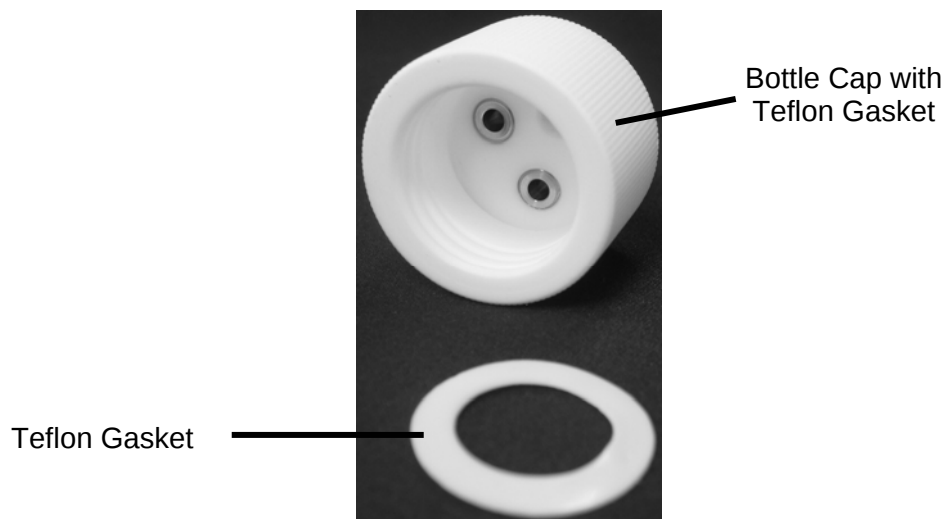

Figure E-12: Bottle Cap and Gasket
- e) Place the Waste bottle in secondary containment in a secure location below the detector (Figure E-11). Make sure that the cap is tightened to prevent any gas leaks. The waste bottle cap (Part Number 70-6915A) is a Teflon cap and includes a Teflon gasket (Part Number 70-6895) inside to ensure a proper seal (Figure E-12). The waste bottle is a closed system under a slight pressure and has a pressure relief valve on the cap in the event that the bottle becomes over-pressurized (e.g., if exhaust is blocked).